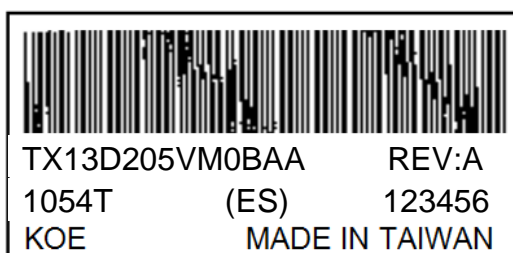

Fig. 10.2
- 4) The location of the lot mark is on the back of the display shown in Fig. 10.2.